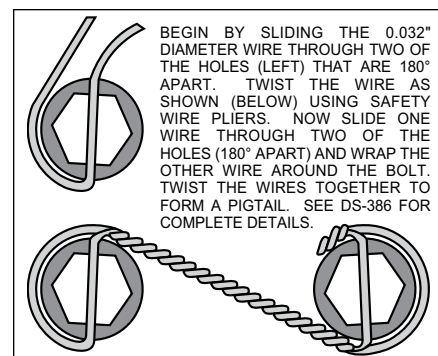

Figure 3. Safety Wire Diagram
- With the larger I.D. side of the rotor (6) facing away from the hat (7), bolt rotor (6) to the hat (7) through the backside of the rotor using washers (8) and bolts (9). Apply red *Loctite*® 271 to the bolt threads and torque to 155 in-lb using a criss-cross pattern. For an added measure of security, the bolts may be safety wired using standard 0.032 inch diameter stainless steel safety wire as shown in Figure 3. Please refer to Wilwood's data sheet DS-386 (available at www.wilwood.com/Pdf/DataSheets/ds386.pdf) for complete safety wire installation instructions. Slide the rotor/hat assembly onto the spindle. Check to be sure the hat seats squarely against the hub. Install a couple of lug nuts (finger tighten) to keep the rotor/hat assembly in place while continuing with the installation.
- Install spacer (14) and one washer (15) over each pre-installed stud (13) on the radial mount bracket (1). Slide the caliper (10) in place over the studs and rotor, then install the washer (12) and lock nut (11) to hold the caliper in place. The caliper bleed screws should be pointing up. Snug the lock nuts (11) and check that the rotor (6) is centered in the caliper (10). Add or subtract .029" shims (3) as necessary between the caliper mounting bracket (1) and the spindle to center the caliper (10).
- Remove the caliper center bridge pad retainer bolt, nut, and tube from the caliper. Slide the brake pads (16) into place. They should install easily without interference. Check that the outside radius of the brake pad is aligned with the outside diameter radius of the rotor face. Add or subtract shims (15) between the caliper (10) and mount bracket (1) to gain the proper alignment. Reinstall the center bridge pad retainer tube, bolt, and lock nut. The lock nut should be snug without play in the bolt or tube. Be cautious not to over tighten.
- Once all clearances have been checked, remove the wheel, caliper, hat, and rotor from the spindle and hub. Secure the caliper mounting bracket (1) to the spindle with bolt (2), washers (3), lock washer (4) and nut (5) as done previously using red *Loctite*® 271. Torque bolt (2) to 75 ft-lb. Reinstall the hat and rotor assembly and again using two lug nuts (finger tighten) to hold it in place. Reinstall the caliper and torque the caliper nuts (11) to 28 ft-lb.